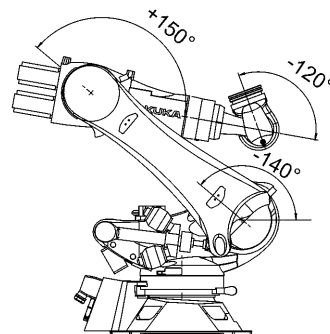

Fig. 12-1: Transport position
3. Put the robot into operation and move it into the transport position (>>> Fig. 12-1).